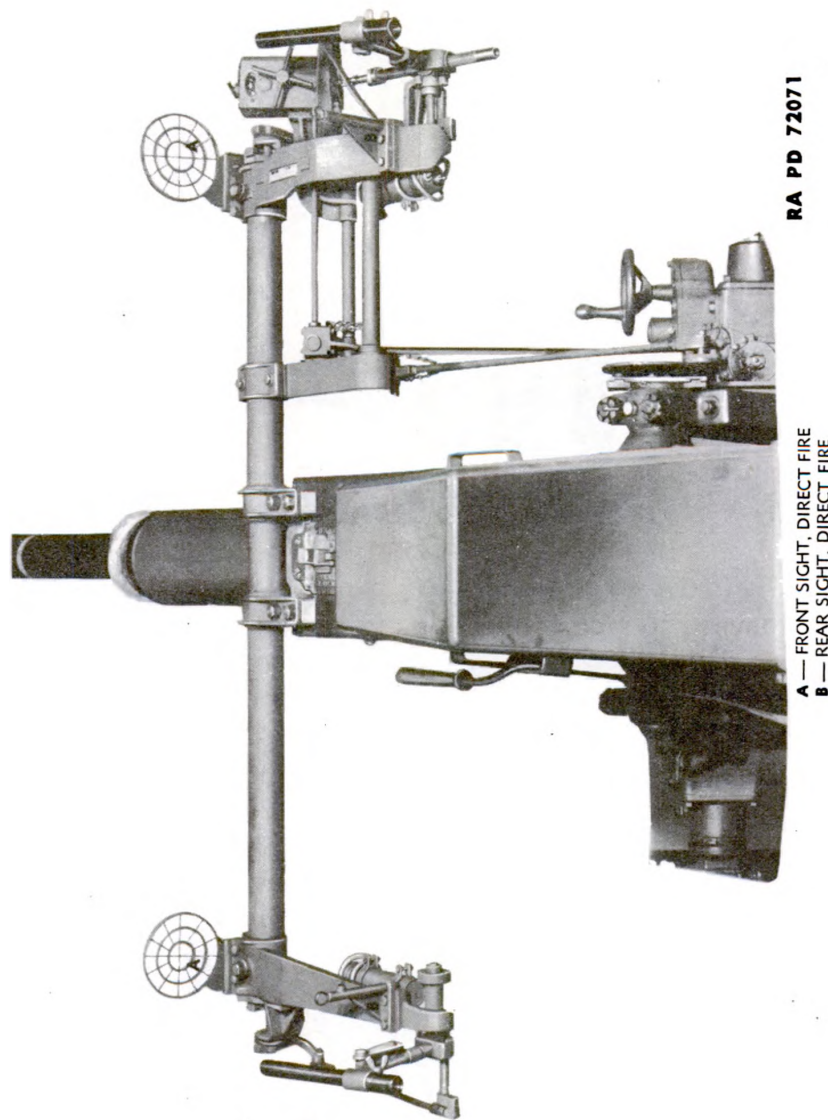

Figure 163 — Direct Fire Sights Mounted on Computing Sight M7 Main Assembly
a. Guns in service are equipped with two types of direct fire sights. Guns not equipped with the Computing Sight M7 or M7A1 are equipped with Sighting System M3 (fig. 161). Guns equipped with the Computing Sight M7 are also provided with direct fire sights for emergency use and for bore sighting operations (fig. 163).
(1) These sights (fig. 163) are for use when neither the director nor Computing Sight M7 or M7A1 is available or in operating condition. They provide a simple means of estimating the necessary lead to allow for target travel during the time of flight of the shell.
(2) The rear sights (B, fig. 163) on both the azimuth and elevation sides of the gun are subject to adjustment for bore sighting. Vertical adjustment is accomplished by raising or lowering the peep rings in their holders. Elongated holes in the base of the holders provide means of making lateral adjustments.
(3) The front sights (A, fig. 163) on both the azimuth and elevation sides of the gun are of the "speed ring" type; permitting the course of the target to be interpreted in terms of a clock hour.
(4) When in use, the front sights are secured in their slides by two wing nuts.
(5) When using these sights, the traversing and elevating hand cranks must be engaged (pushed in) and the oil gears of the remote control system must be disengaged. To disengage the azimuth oil gear, disengage the power synchronizing mechanism by pulling the power synchronizing handle upward. This shuts off power to the oil gear and disengages the azimuth oil gear clutch. To disengage the elevation oil gear, move the elevation limit switch to the "OFF" position, disconnecting power to the elevation oil gear. Then disengage the elevation oil gear clutch lever by lifting the clutch lever lock and moving the clutch lever to the disengaged position (the top of the clutch lever toward the output coupling).
(6) Leads are set by tracking the target at different points on the front sight cross wires, in accordance with the practice of the using arms. The outer ring is equivalent to a target speed (in a plane at
**40-MM AUTOMATIC GUN M1 (AA) AND 40-MM ANTI-AIRCRAFT
(7) The front sights should *not* be mounted when Computing Sight M7 or M7A1 is in operating condition (fig. 163). When mounting them, be sure that the slides and stop surfaces are clean. Push the front sights down firmly against their stops and then securely tighten the wing nuts.